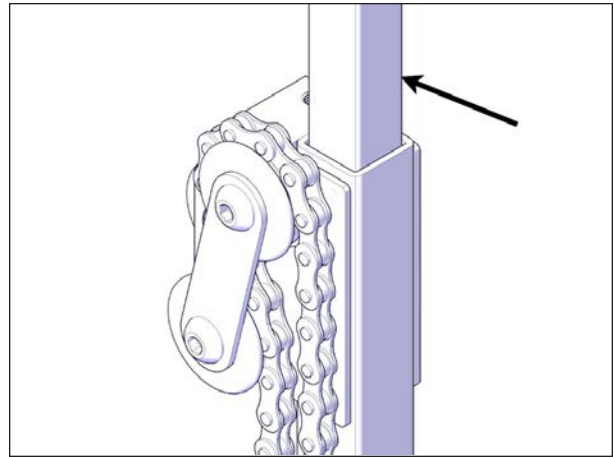

FIGURE 110: SLIDING PARTS TO GREASE
- Spray grease on all the sliding parts and mechanical components of all jacks, see Figure 110.